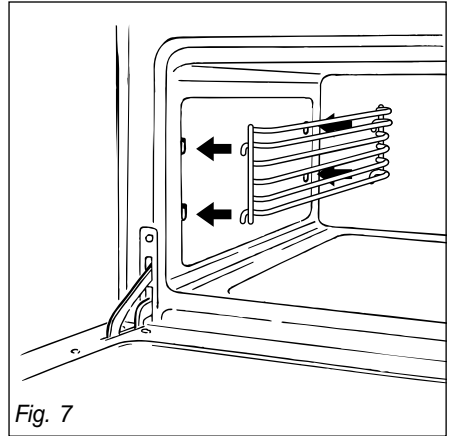

Fig. 7
- Hang up the wire racks on the oven sides (Figure 7).